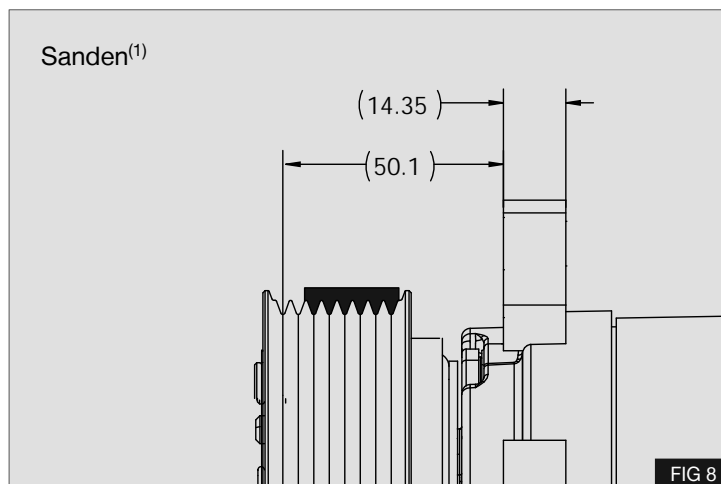

FIG 8
- B. Sanden⁽¹⁾ compressors - Belt is installed with 2 spare grooves at the front of the compressor pulley - Fig 8